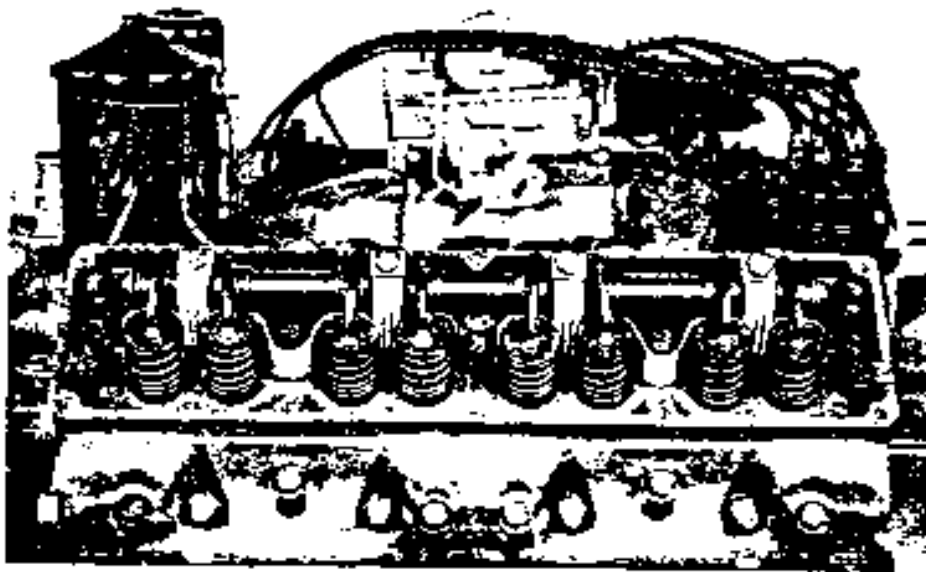

FIG. 3
- B. Position the baffles on rocker assembly, lining the bolt holes on baffle with bolt holes on rocker brackets. (See Fig. 3). Replace rocker assembly on cylinder head. Replace the rocker shaft bolt lockwasher with the square type lockwasher. Install the rocker shaft bolts, make sure the push rods are